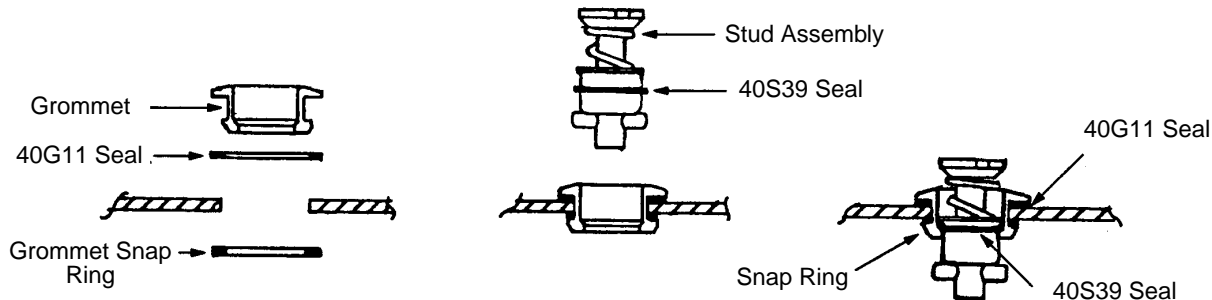

Figure 8 - Installation of Sealed 4002 Series Stud Assembly
- Step 1. If a sealed stud assemblies is specified, place the 40G11 seal on the grommet before fitting the grommet to the stud panel and fit the 40S39 seal around the stud spring cup (see Figure 8).